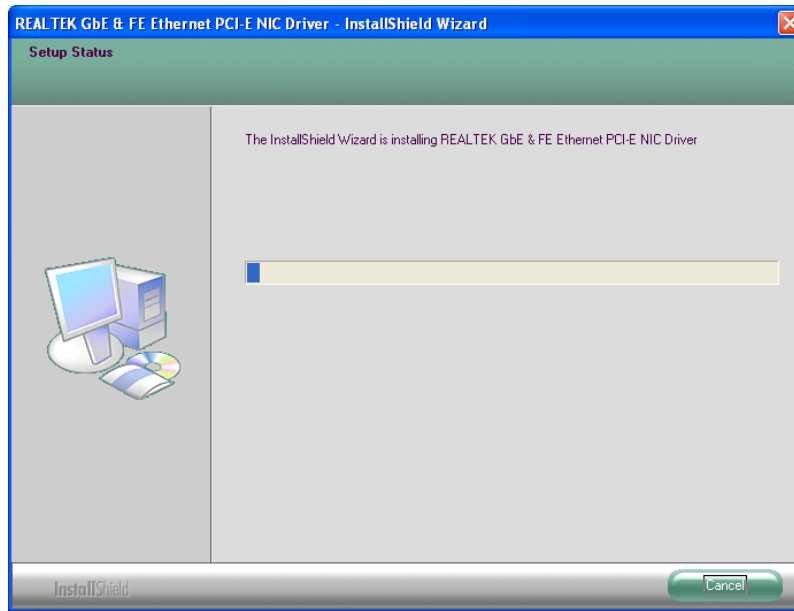

Figure 7-19: LAN Driver Installation
Step 8: The installation progress can be monitored in the progress bar shown in Figure 7-19.